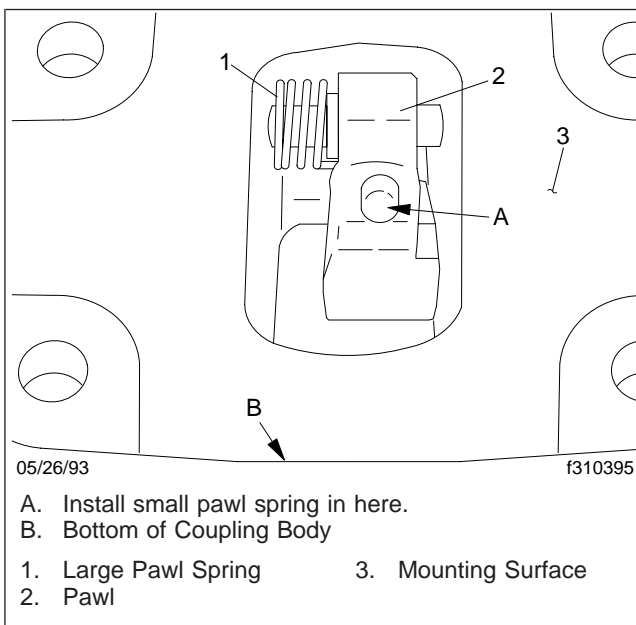

Fig. 5, Pawl Spring Installation
4. Install the pawl and spring in the bottom of the coupling body, with the spring to your left. See **Fig. 5**. Make sure the other leg of the spring sits in the slot inside the body.
7. Turn the handle toward yourself, then—from the bottom of the coupling body—install the small pawl spring in the depression on the pawl. See Fig. 5. Make sure the other end of the spring fits into the depression inside the coupling body.